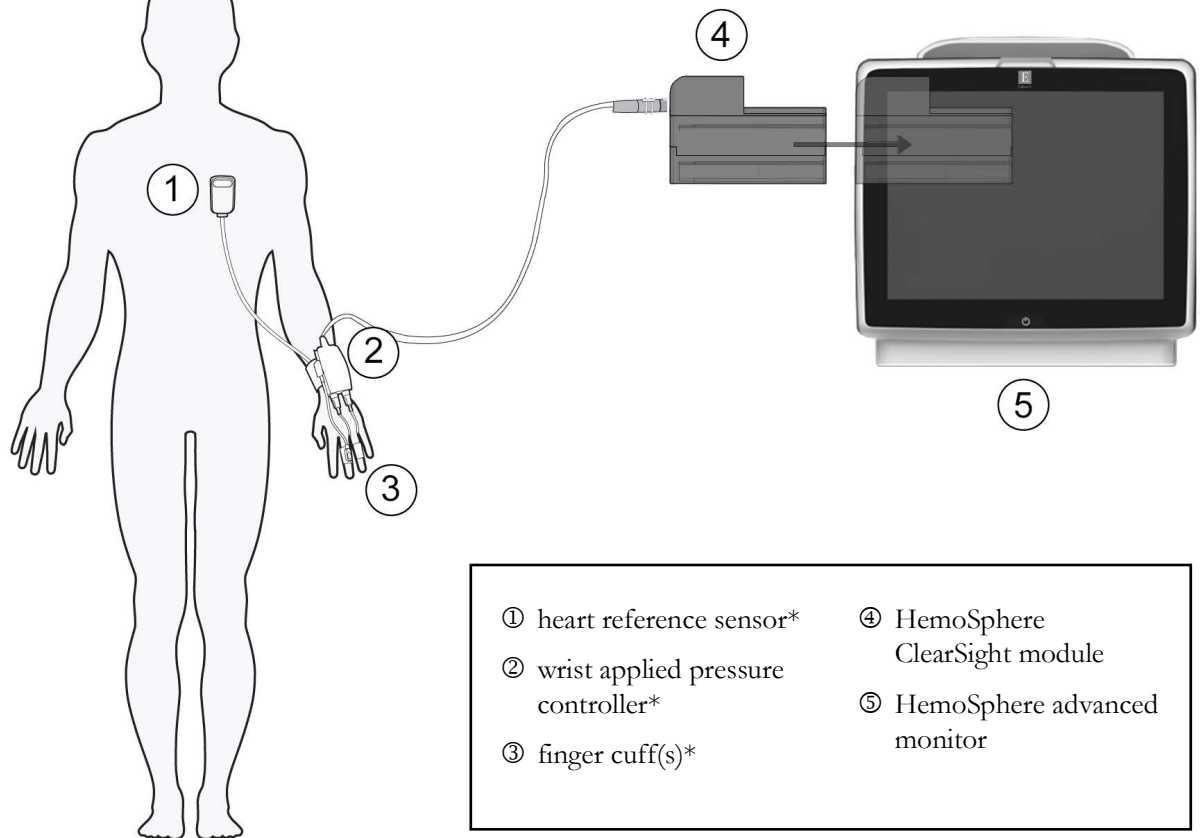
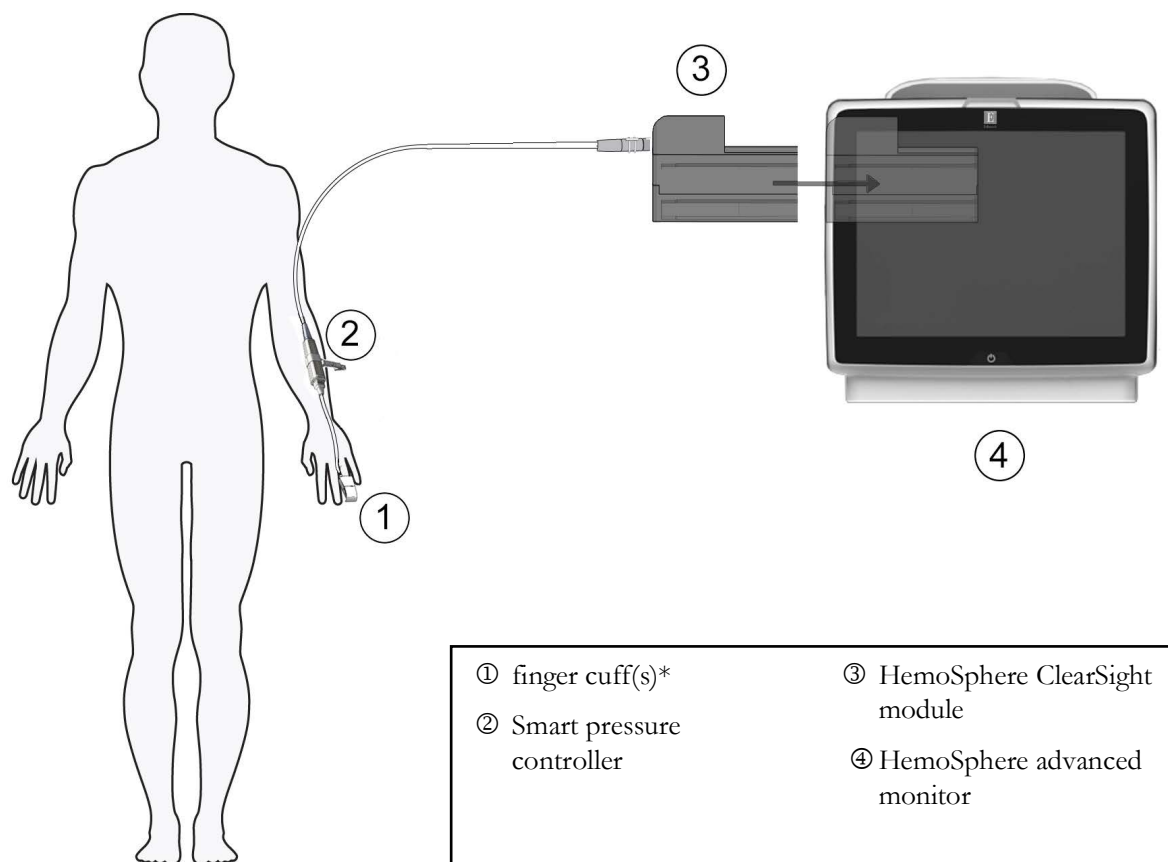

Figure 11-1 HemoSphere non-invasive system connection overview (wrist applied pressure controller)
Figure 11-2 HemoSphere non-invasive system connection overview (Smart pressure controller)
The HemoSphere non-invasive system is composed of the HemoSphere advanced monitor with ClearSight module and connected pressure controller, heart reference sensor, and compatible Edwards finger cuff(s). See system connections in figure 11-1 on page 203. Accurate measurement of the patient's blood pressure and key hemodynamic parameters is based on the Volume Clamp method, Physiocal method and ClearSight algorithm.
The HemoSphere ClearSight module is compatible with all approved Edwards finger cuffs. See figure 11-1 for an overview of the HemoSphere non-invasive system connections.
NOTE Components indicated by * in figure 11-1 and figure 11-2 legend are APPLIED PARTS as defined in IEC 60601-1 that in normal use necessarily come into physical contact with the patient for the HemoSphere non-invasive system to perform its function.
- 3 Attach the pressure controller cable to the HemoSphere ClearSight module. (figure 11-1)
- 1 Insert the Smart pressure controller cable into the HemoSphere ClearSight module port (figure 11-2).